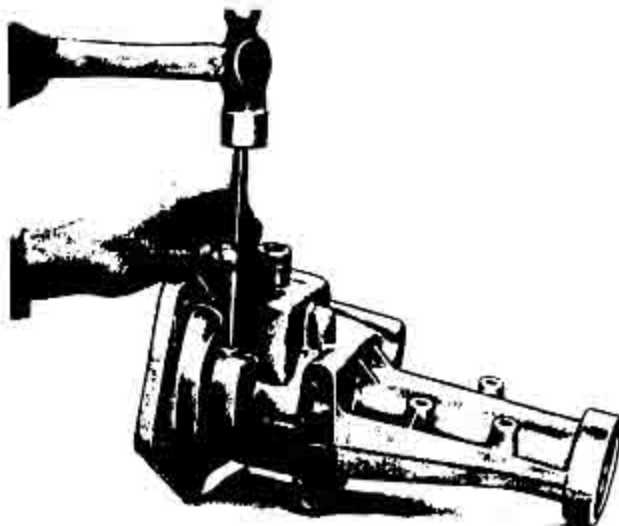

Fig. 12 Removing Reverse Idler Shaft Roll Pin
2. Place small punch into hole in reverse idler shaft boss and drive welch plug and roll pin into idler shaft until shaft can be pulled from the case extension (Figure 12).